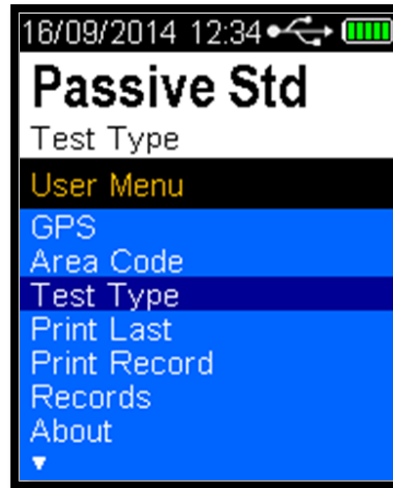

Figure 13 Passive Standard Displayed
- Press the Test key until Passive Std is displayed (Refer Figure 13).